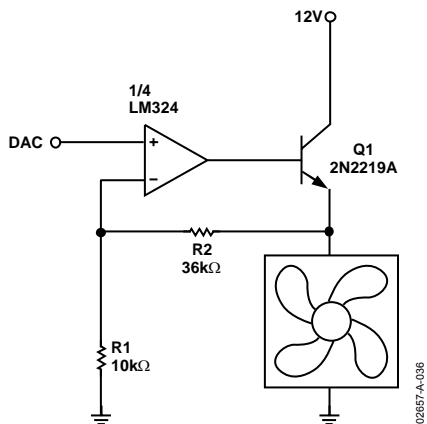
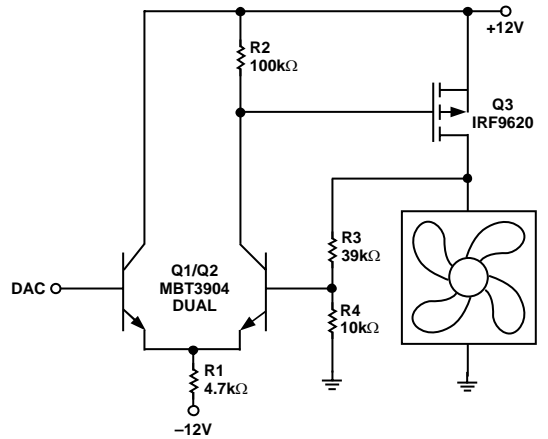

Figure 36. Fan Drive Circuit with Op Amp and Emitter-Follower
Figure 40. Discrete Fan Drive Circuit with P-Channel MOSFET, Dual Supply
Suitable fan drive circuits are shown in Figure 36 through Figure 40. When using any of these circuits, note the following:
- All of these circuits provide an output range from 0 V to almost $+12$ V, apart from Figure 36, which loses the base-emitter voltage drop of Q1 due to the emitter-follower configuration.